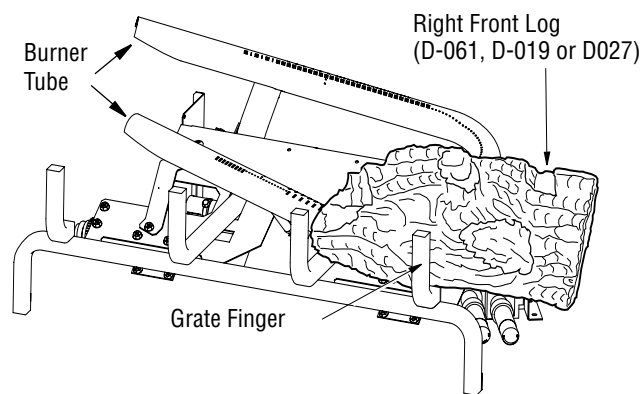

Figure 16 - Installing Right Front Log
1. Find the right front log (SouthernComfort24 and ShadyHollow24 inch models: D-061 or SouthernComfort30 and ShadyHollow30 inch models: D-019 or SouthernComfort36 and ShadyHollow36 inch models: D-027). See **Figures 16, 16A, 16B, and 16C** for reference. The log has a rectangular shape on the bottom that fits against the lip on the black metal base, the square grate, and the round tube burner. Slide the log in place as shown in figures.